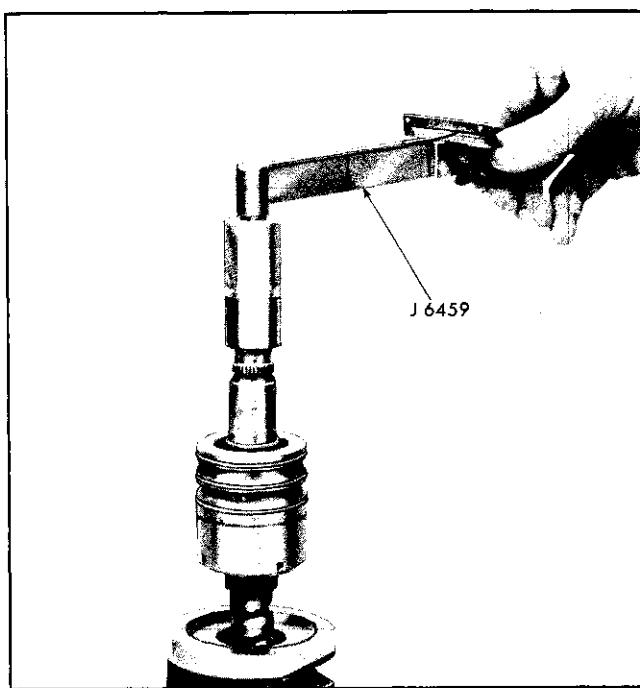

Fig. 9-66 Checking Worm Preload
4. Attach an inch-pound torque wrench with $3/4$ " 12-point socket to stub shaft (Fig. 9-66).